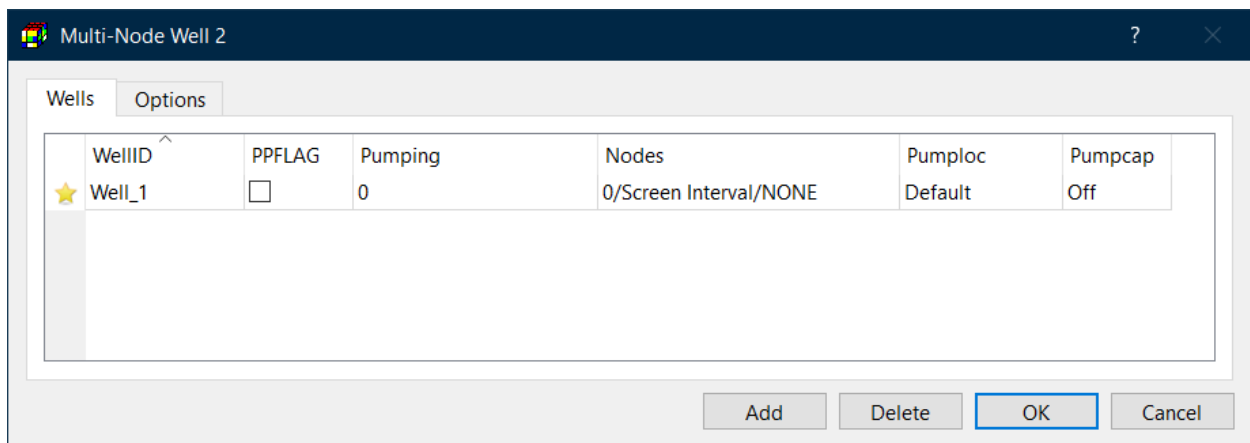

Figure 6. The Multi-Node Well 2 dialog box
2. Move the grid cursor to the cell [1, 15, 25], press the Enter key to display the Multi-Node Well 2 dialog box, and then click Add to add a well to the table (Figure 6). By default, the new well does not have any nodes and its pumping is zero. We will need to assign nodes and pumping to the well.